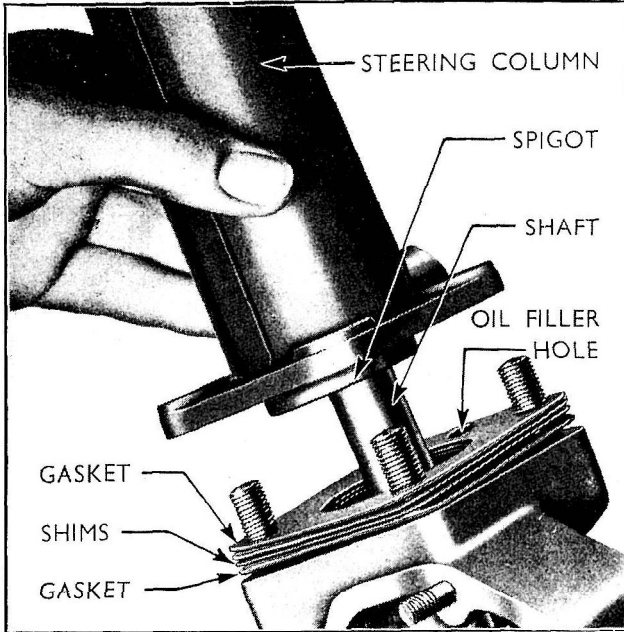

Fig. 214
- 4 Carefully lift the column, taking care not to move the shaft, since this would displace the upper and lower bearings. See Fig. 214.